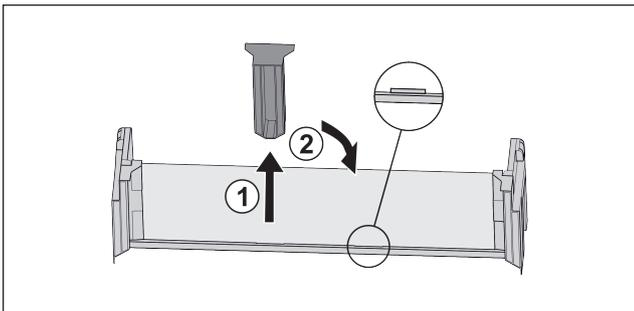

Fig. 30
- ▶ Pull off the middle holder Fig. 30 (1).
- ▶ Insert the middle holder in the second position Fig. 30 (2).